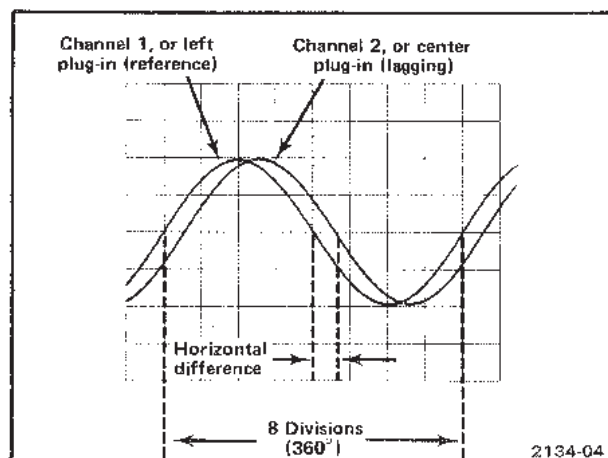
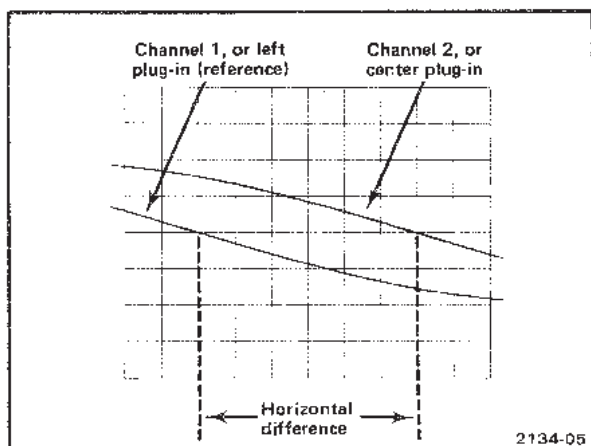

Fig. 1-8. Measuring phase difference.
Fig. 1-9. High-resolution phase difference measurement with increased sweep rate.
9. Turn the variable Seconds/Div control until one cycle of the reference signal (Channel 1, or left plug-in) occupies exactly eight divisions between the second and tenth vertical lines of the graticule (see Fig. 1-8). Each division of the graticule represents 45° of the cycle ($360^\circ \div 8 \text{ divisions} = 45^\circ/\text{division}$). The sweep rate can be stated in terms of degrees as $45^\circ/\text{division}$.
EXAMPLE: Assume a horizontal difference of 0.6 division with a sweep rate of $45^\circ/\text{division}$ as shown in Fig. 1-8. Use the formula:
EXAMPLE: If the sweep rate were increased 10 times with the magnifier, the magnifier sweep rate should be $45^\circ/\text{division} \div 10 = 4.5^\circ/\text{division}$. Figure 1-9 shows the same signals as used in Figure 1-8, but with the Swp Mag button pushed in. With a horizontal difference of six divisions the phase difference is: